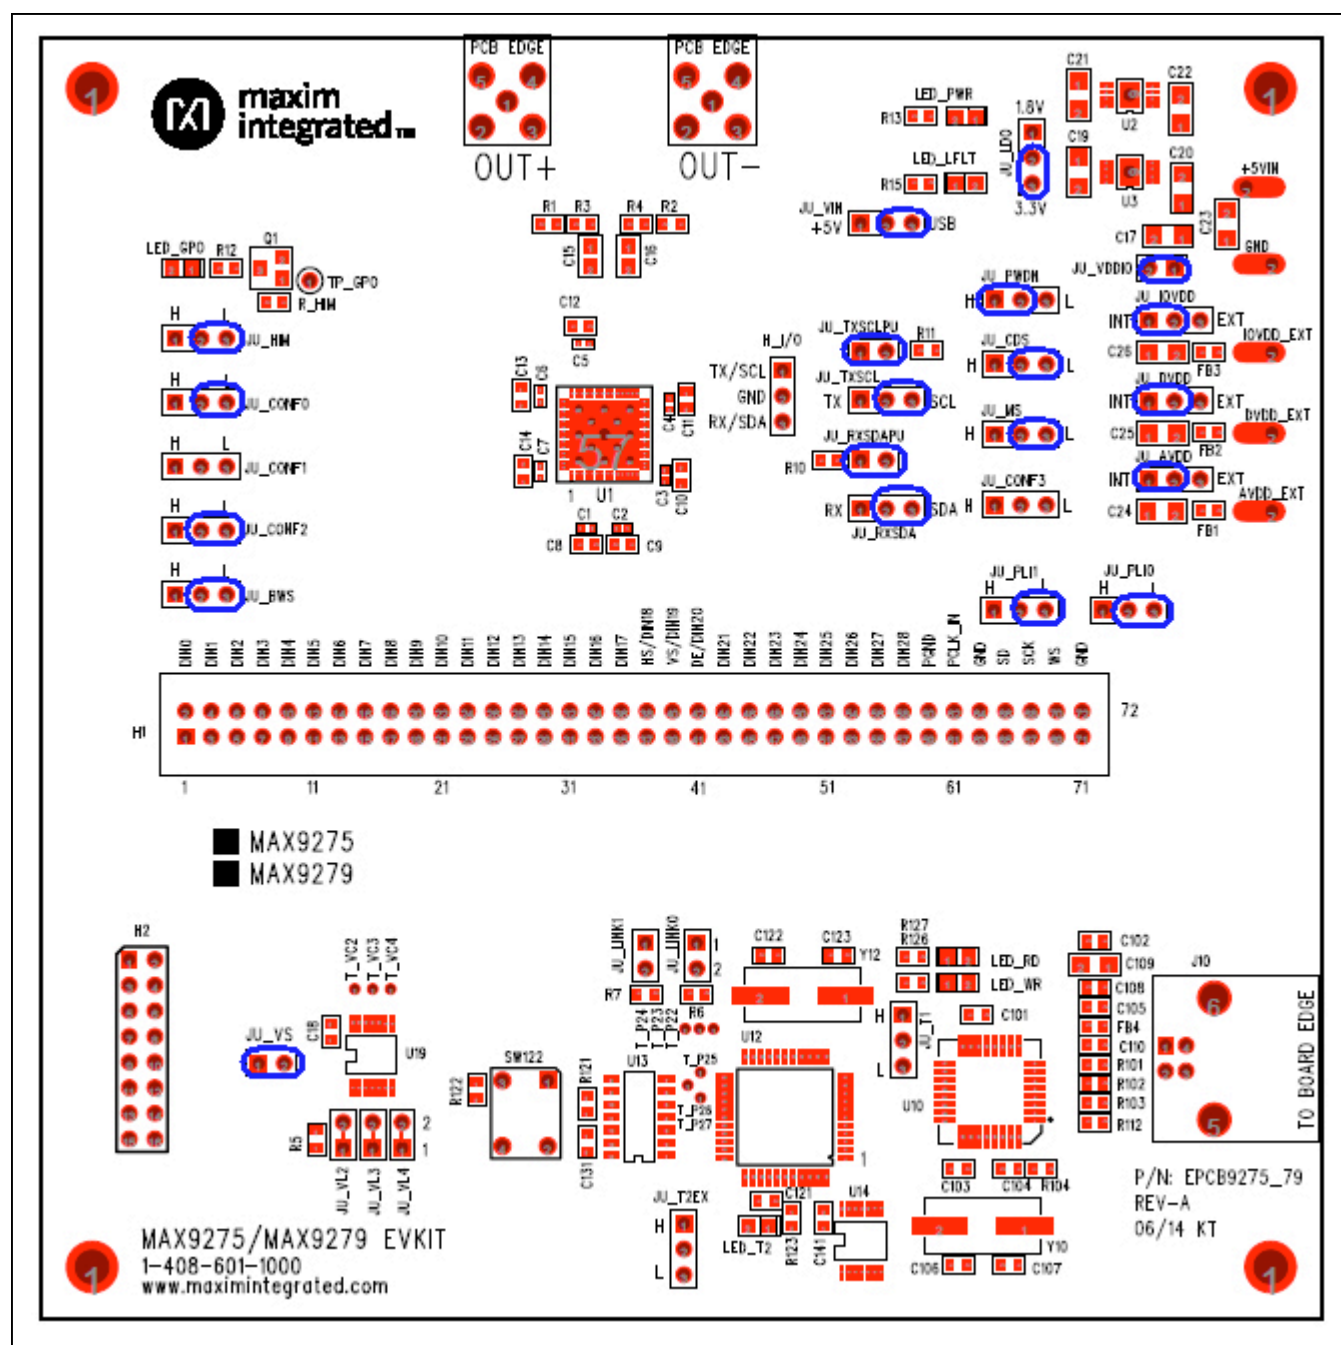
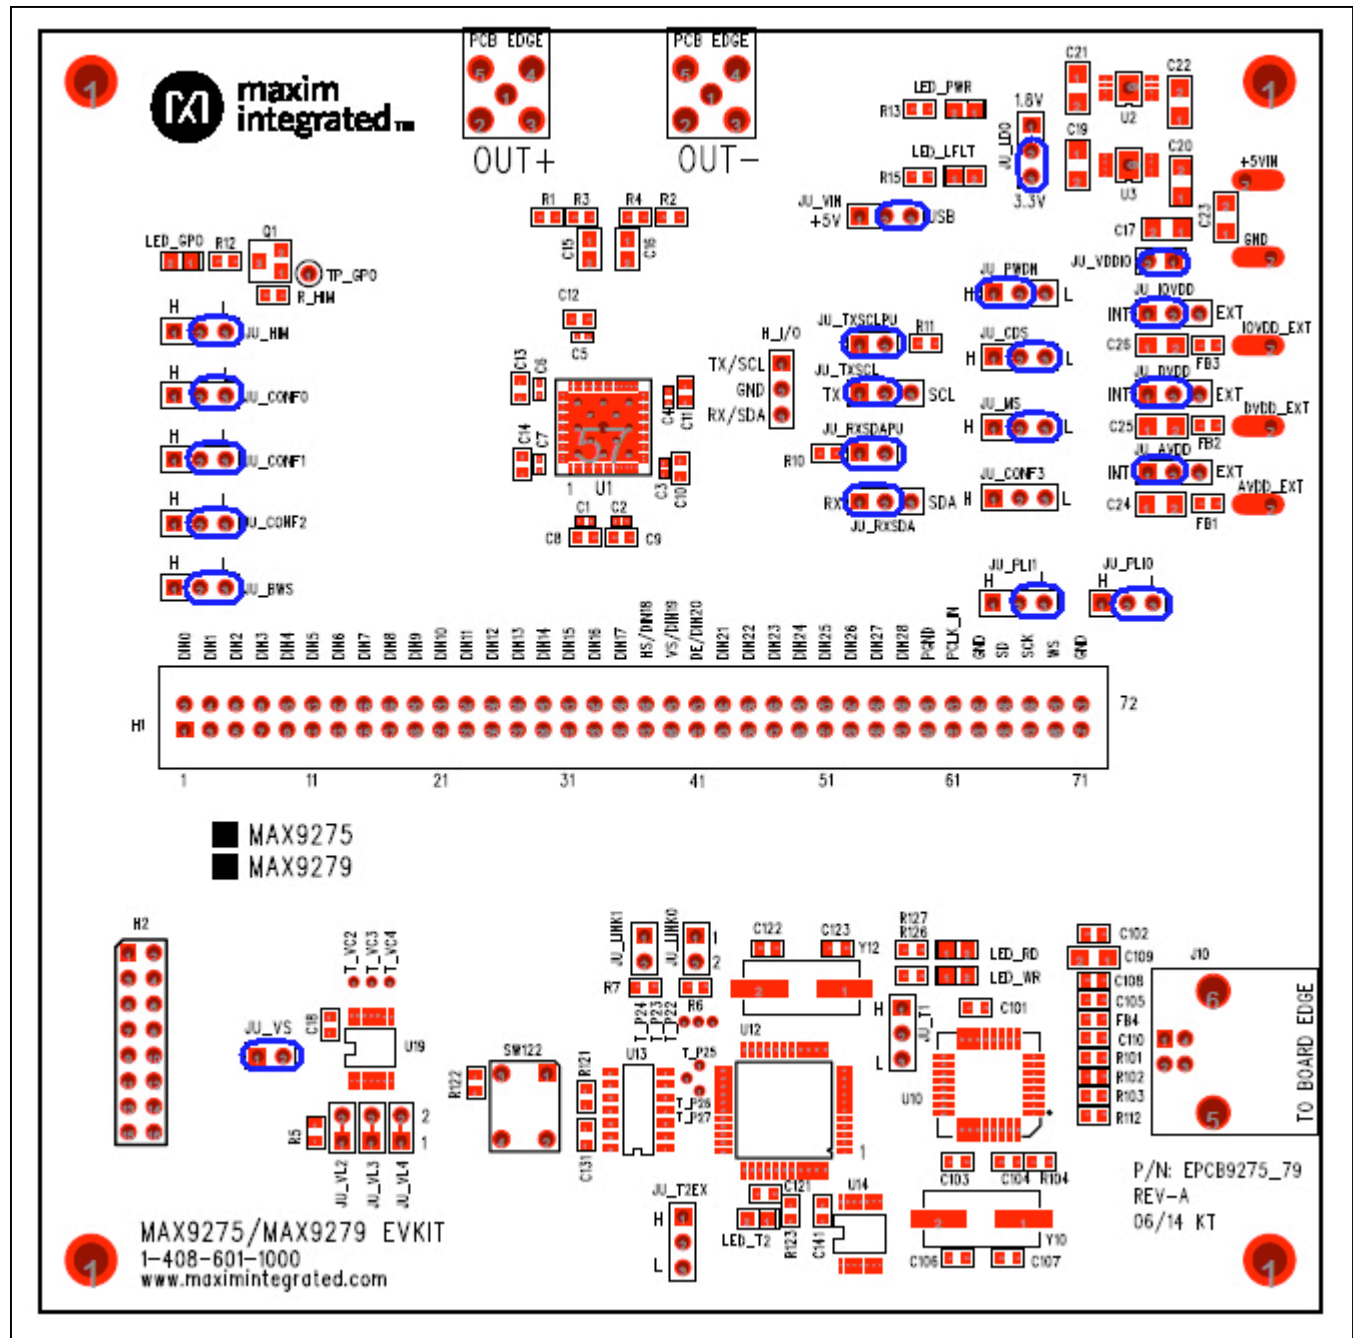
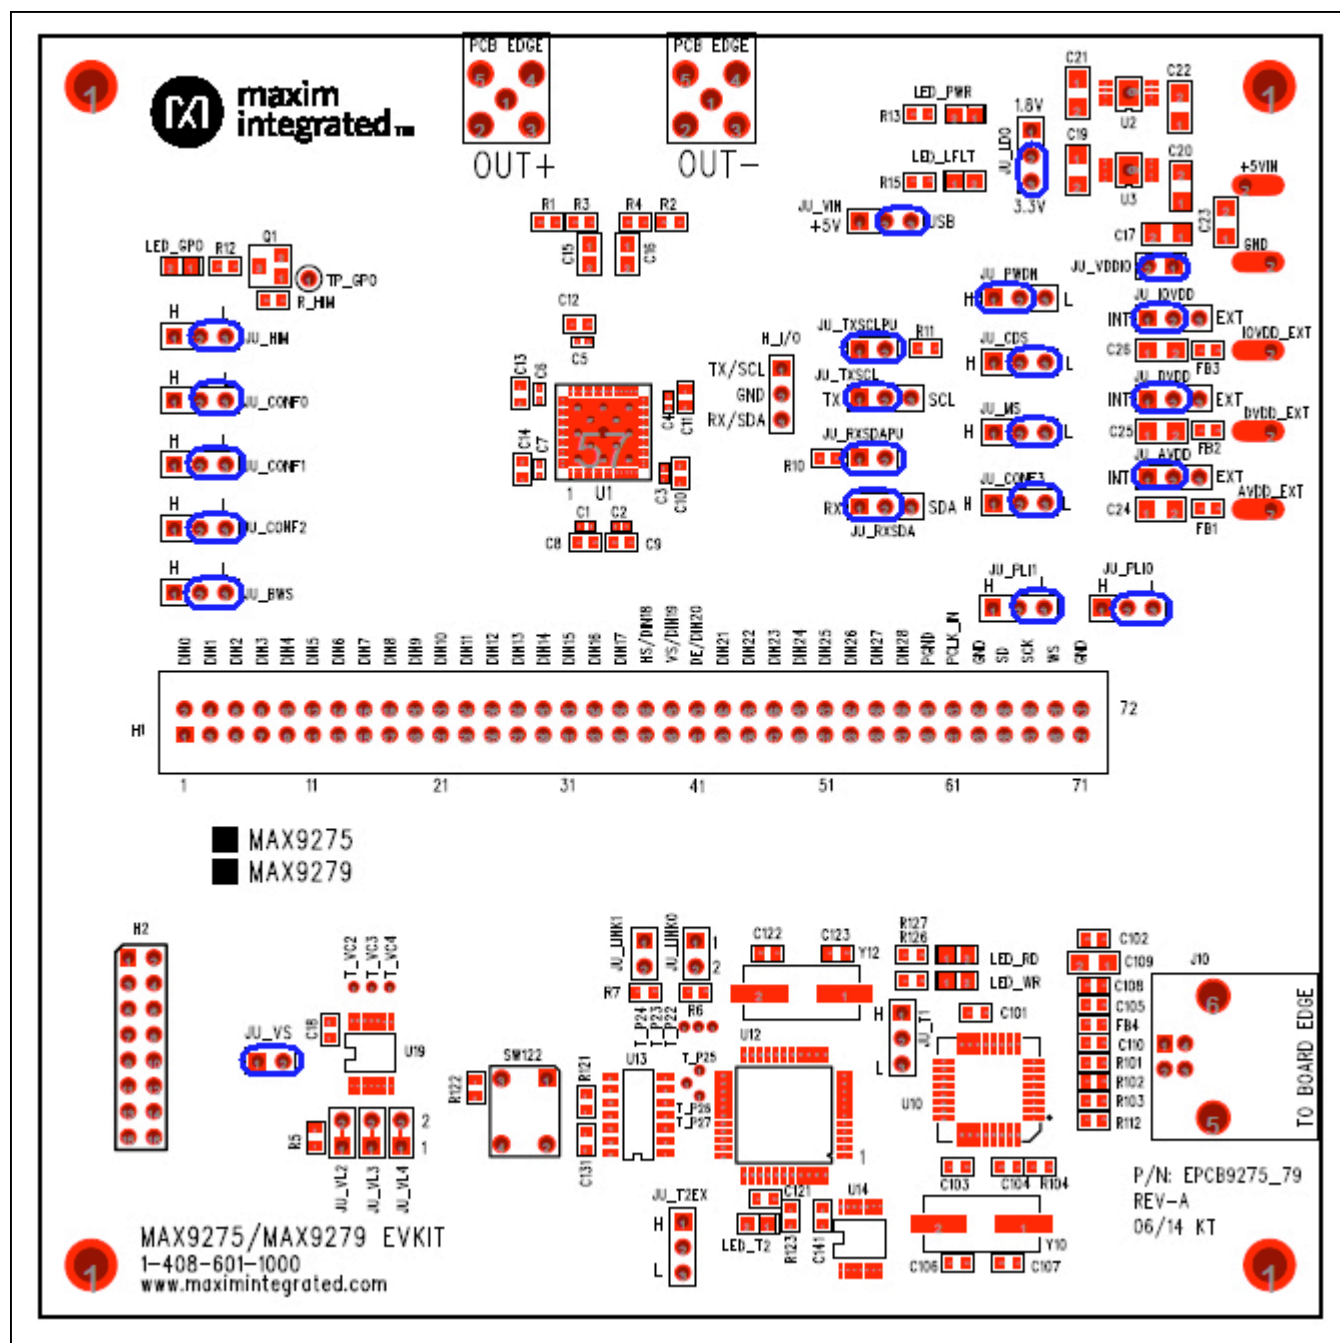
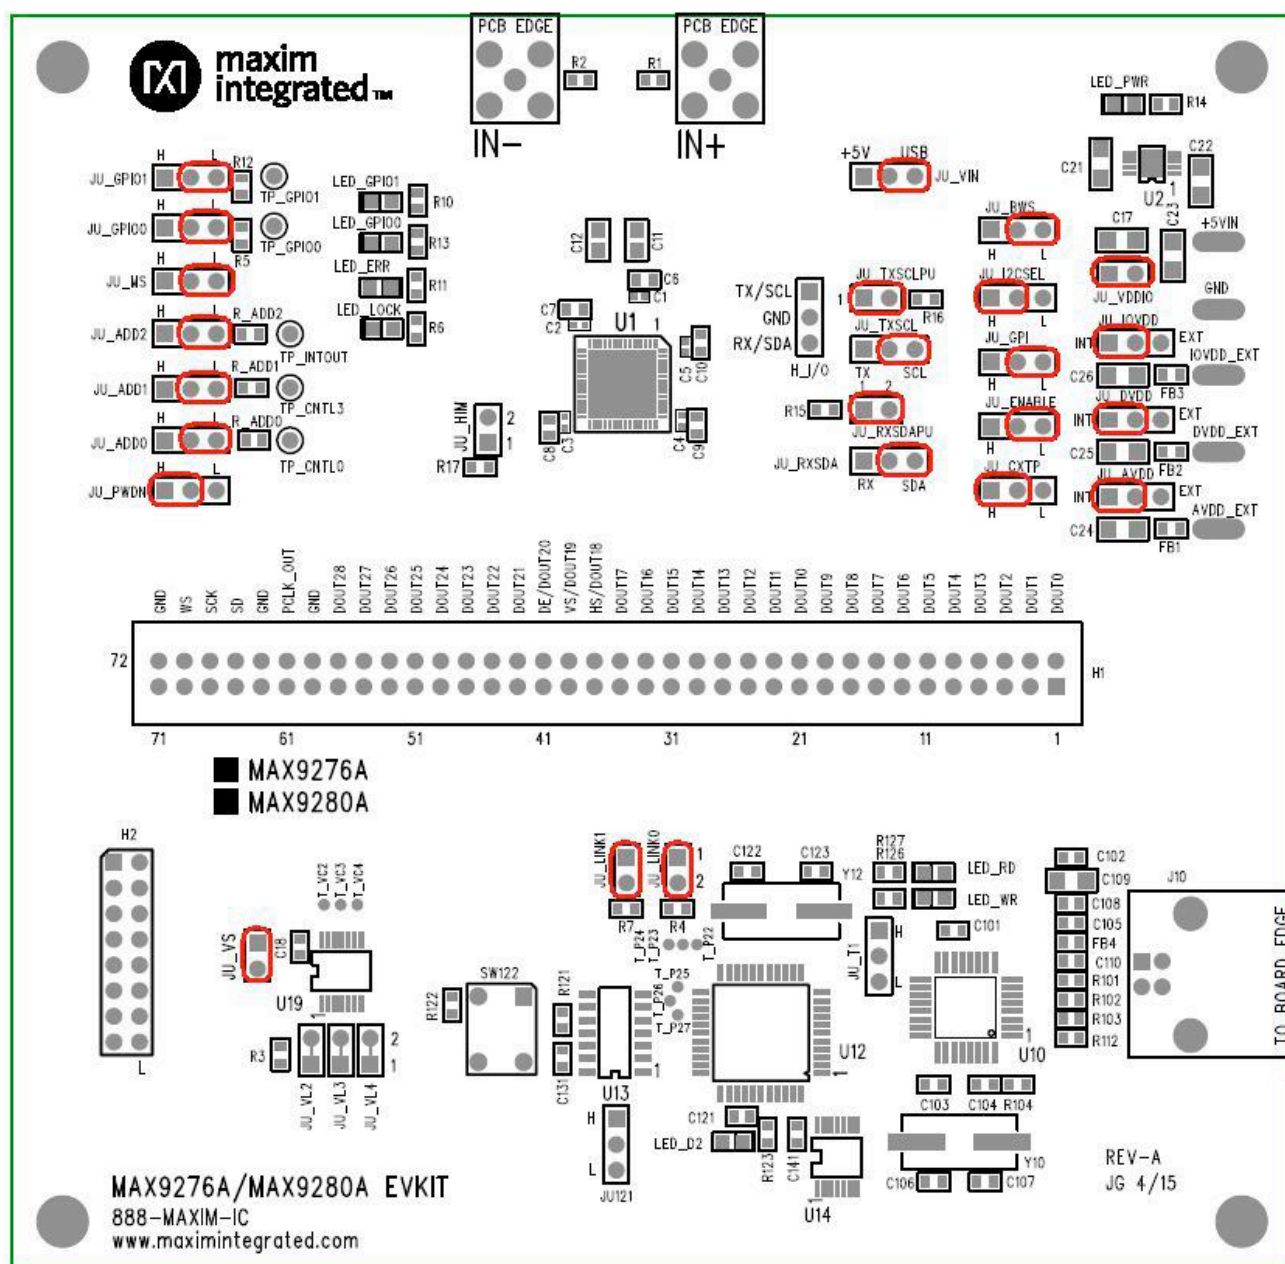

Figure 8. Initial Serializer Jumper Settings for Coax/I²C Mode
Figure 9. Serializer Jumper Settings for Coax/UART Mode
Figure 10. Serializer Jumper Settings for STP/UART Mode
Figure 12. Initial Deserializer Jumper Settings for Coax/I²C Mode
- 2) Verify that all serializer jumpers are in their default positions, as shown in Table 1 and Figure 8, and deserializer jumpers are set, as shown in Figure 12.
The **Identify Devices** button causes the GUI to scan the system and search for slave addresses selectable by the SerDes input address pins. Upon successful communication, identified **Device ID** and corresponding jumper lists are displayed on the **MAX9279 Jumper Selection** and **MAX9280/80A Jumper Selection** group boxes. The user can also manually select a device from the **Device ID** drop-down list and enter a slave address in the **Device Address** edit box. It is good practice to utilize the **Identify Devices** function and verify communication with the DUTs before attempting to **Connect**. Figure 8, Figure 9, Figure 10, Figure 11, and Figure 12 show jumper settings on the MAX9275/MAX9279 PCB for coax or STP cable and UART or I2C communication with a USB controller connected to the serializer board. Refer to the MAX9275/MAX9279 IC data sheet for detailed configuration information. See Table 1 for jumper functions and settings.